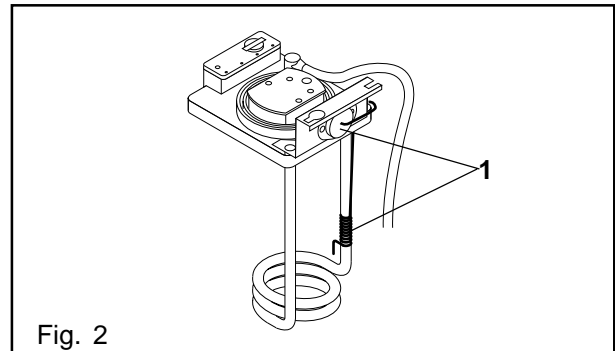

Fig. 2
- The dry running protection (1) (capillary tube with membrane sensor) (Fig. 2) in the boiler prevents overheating of the heating element (dry running). When the heating element overheats the fluid in the capillary tube expands and activates the membrane switch.